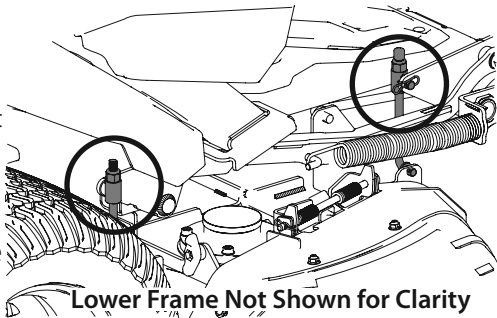

Figure 42
5. Locate the adjustment nuts on top of the deck lift rods on the left and right side of the tractor. There is one on each side at the front of the deck between the platform and lower frame tube, and one at each side of the rear of the deck near the front of the rear wheel. See Figure 42.